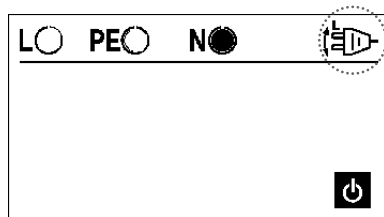
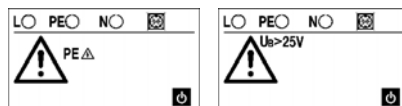

Figure 5.7.6: Display for phase position N to L/L1 and L to N/L2
Figure 5.7.7: PE error display
If the instrument shows the pin assignment as indicated in Figure 5.7.6, i.e. the symbol 'turn mains plug' (5) is blinking, the test cannot be started. An acoustic signal is audible when starting the test. The shockproof plug must be turned or L and N of the connected test leads must be exchanged.
► For socket testing touch the contact electrode 'PE' (21)..
If the test instrument indicates "⚠" (14), 'socket error' (4) and 'PE error' (16), or 'contact voltage' (15) symbols, as shown in Figure 5.7.7, either the protective conductor (PE) is open or a voltage is present! This is a fatal error and must immediately be eliminated!
☞ If other symbols than those shown in Figure 5.7.6 or 5.7.7 are displayed on the LCD, the socket is not correctly connected or the test lead connections are incorrect. Please refer to section 6.0 on page 31 for the explanation to the individual errors.